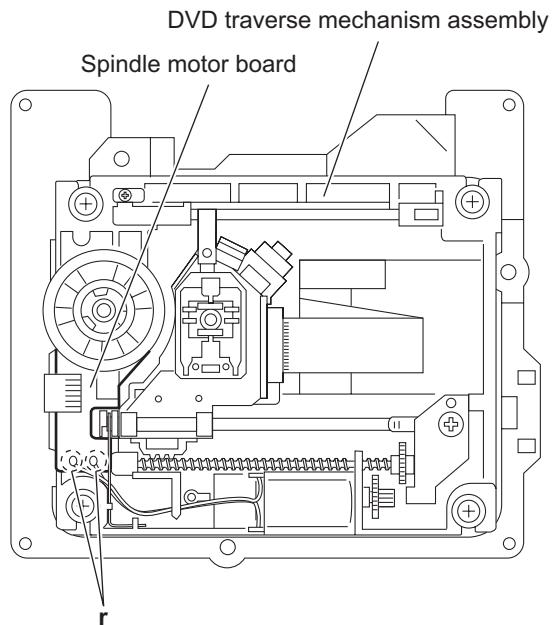

Fig.16
(See Figs.16 and 17)
- (1) From the top side of the DVD traverse mechanism assembly, remove the wires from the soldered sections **r** on the spindle motor board. (See Fig.16.)